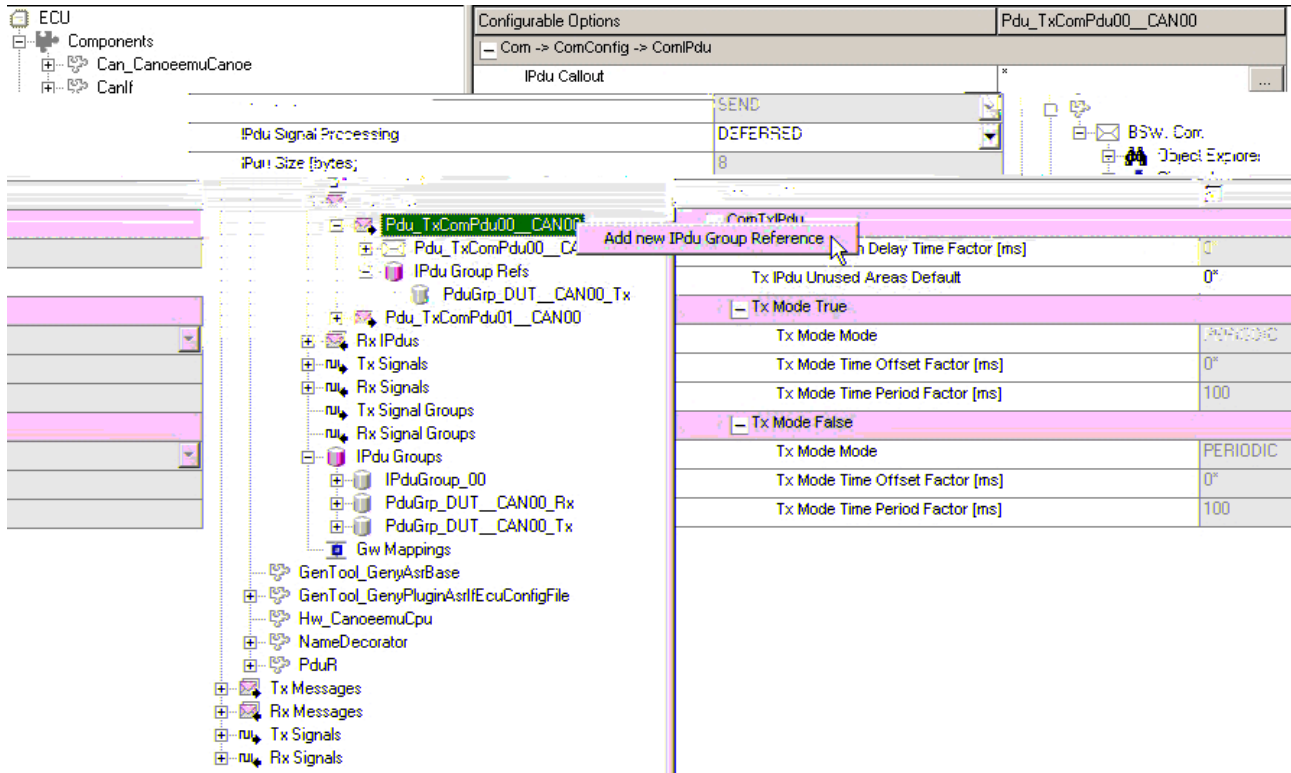

Figure 3-6 Creating an I-PDU group reference
- > First, create a new I-PDU group reference object by right-clicking on to I-PDU node in GENy and selecting “Add new Ipdu Group Reference” as shown in Figure 3-6.